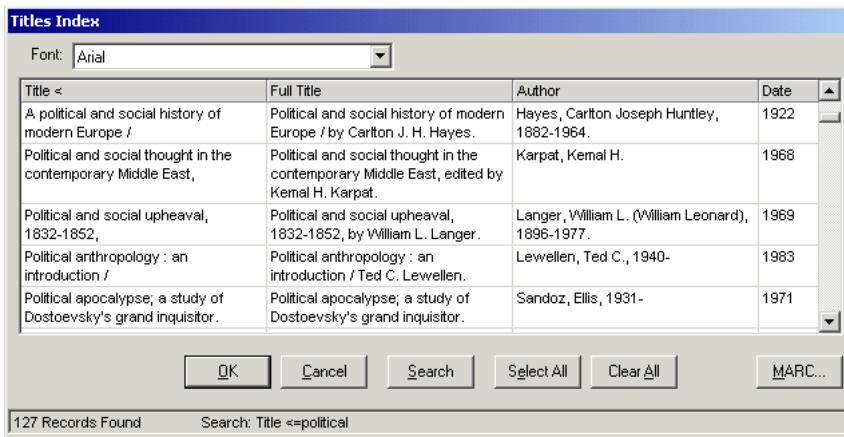

Figure 13-5. Title Index dialog box - MARC button displayed
- The **MARC** button on the **Titles Index** dialog box (Figure 13-5), which displays as a result of any non-Headings search done in Acquisitions. See Keyword Search Results - The Titles Index on page 2-14 for more information.